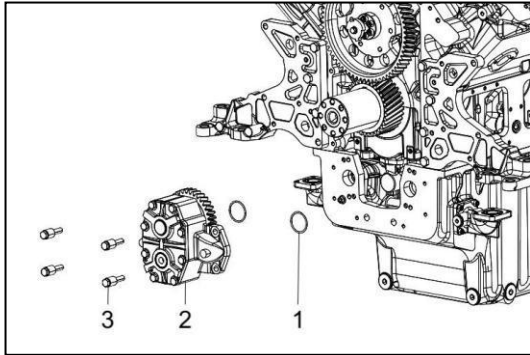

Figure 147
1. Put new O-seal ring (Figure 147, 1) on the oil pump (Figure 147, 2).